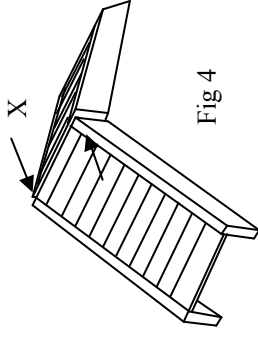

Fig 4
5. Next take the two roof sections **D** and screw together using screws **X** as shown in Fig 4.